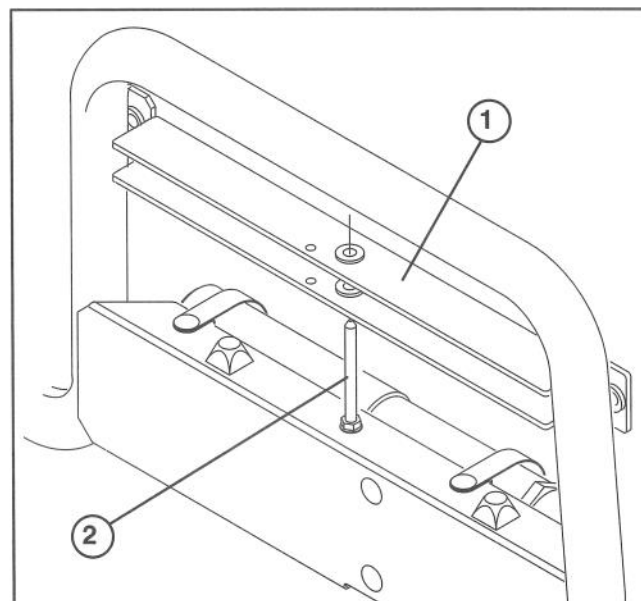

Figure 35
USING BED SAFETY SUPPORT (Fig. 35 & 36)
2. Remove bed support from storage stud on top of back rest support channel on Workman (Fig. 35).